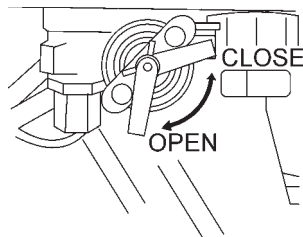

Figure 12. Close Fuel Cock
3. Close the fuel cock (Figure 12).